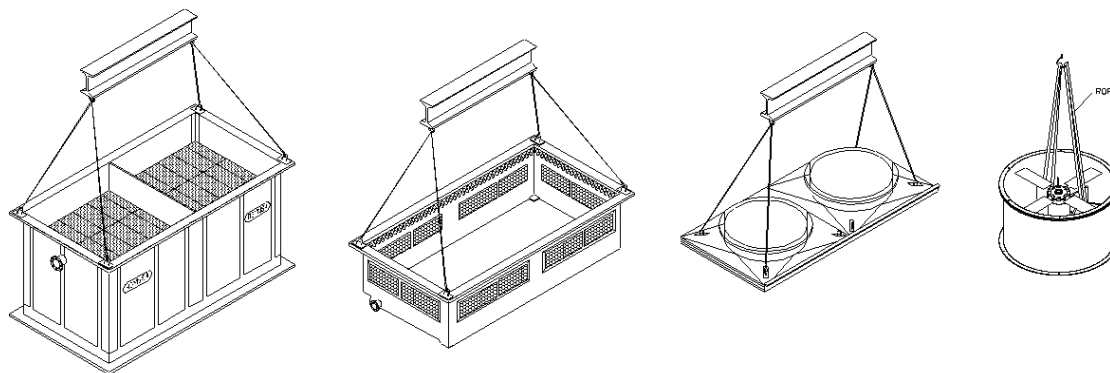

Figure A-22: Modular Tower Handling
- B. After assuring the equipment is received in proper conditions, proceed to unload it off of the transportation vehicle, piece by piece, with a crane (using a spread bar) or forklift of the appropriate capacity, see Figure A-22 for an example.